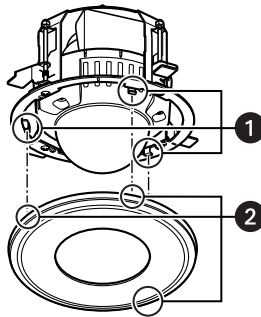

Figure 28. Attaching the Ceiling Mount Cover
- a. Align the projection on the ceiling mount cover with the hooks on the ceiling mount bracket (refer to Figure 28).